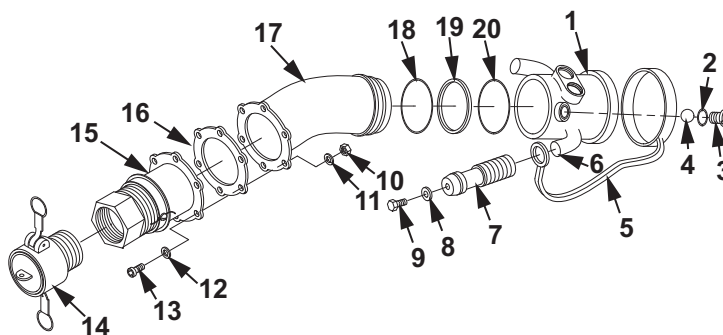

Figure 1. D1 Nozzle Disassembly.
1. Remove six locknuts (Figure 1, Item 1), washers (Figure 1, Item 2), screws (Figure 1, Item 3) and washers (Figure 1, Item 4) attaching quick disconnect coupling half adapter (Figure 1, Item 5) to inlet elbow (Figure 1, Item 6). Discard locknuts (Figure 1, Item 1).
2. Remove quick disconnect coupling half adapter (Figure 1, Item 5) from inlet elbow (Figure 1, Item 6).
3. Remove gasket (Figure 1, Item 16) from inlet elbow (Figure 1, Item 17) and discard.
Screw (Figure 1, Item 3) is a self-locking screw and is designed to be reused up to 15 times before replacement. If a torque wrench is not used to remove screw (Figure 1, Item 3), then screw (Figure 1, Item 3) should be replaced.
4. Using a torque wrench and screwdriver bit, check running torque on screw (Figure 1, Item 3). If running torque is less than 9.5 in. lb (1.07 N•m), discard screw (Figure 1, Item 3).
Keep inlet hole in the up position when removing screw (Figure 1, Item 3) to prevent loss of ball bearings (Figure 1, Item 4).
5. Remove screw (Figure 1, Item 3) from fuel nozzle body (Figure 1, Item 1).
6. Remove O-ring (Figure 1, Item 2) from screw (Figure 1, Item 3) and discard.
7. Hold fuel nozzle body (Figure 1, Item 1) with screw hole toward cleaning cloth and rotate fuel nozzle body (Figure 1, Item 1) to allow ball bearings (Figure 1, Item 4) to fall onto the cleaning cloth.
8. Remove inlet elbow (Figure 1, Item 17) from fuel nozzle body (Figure 1, Item 1).
9. Remove O-ring (Figure 1, Item 20) from internal groove of the fuel nozzle body (Figure 1, Item 1).
10. Discard O-ring (Figure 1, Item 20).
11. Remove seal (Figure 1, Item 19) and wear ring (Figure 1, Item 14) from inlet elbow (Figure 1, Item 17).
12. Discard seal (Figure 1, Item 19).
If it is necessary to replace dust cap (Figure 1, Item 5), perform the following removal steps.
13. Using a torque wrench and screwdriver bit, check running torque on screw (Figure 1, Item 9). If running torque is less than 6.5 in. lb (0.73 N•m), discard screw (Figure 1, Item 9).
14. Remove screw (Figure 1, Item 9) and washer (Figure 1, Item 8) from grip handle (Figure 1, Item 7).
15. Remove grip handle (Figure 1, Item 7) from fuel nozzle handle (Figure 1, Item 6).
16. Remove dust cap (Figure 1, Item 5) from fuel nozzle handle (Figure 1, Item 6).
17. Using pipe wrench, remove quick disconnect coupling half adapter (Figure 1, Item 15) by turning the quick disconnect coupling half (Figure 1, Item 14) counterclockwise.
2. Inspect quick disconnect coupling half adapter (Figure 1, Item 15) and quick disconnect coupling half (Figure 1, Item 14) for leakage or damage. If leakage or damage is found, replace quick disconnect coupling half adapter (Figure 1, Item 15) or quick disconnect coupling half (Figure 1, Item 14).
3. Check fuel nozzle body (Figure 1, Item 1) for leakage or damage. If leakage or damage is found, replace with a serviceable nozzle.